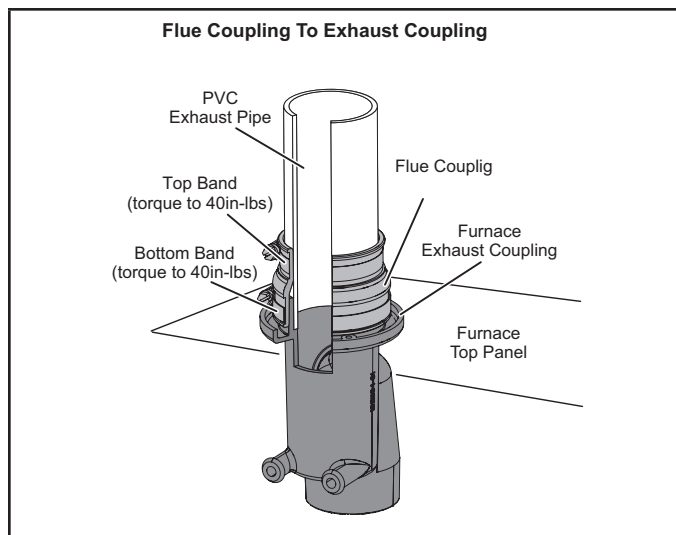

FIGURE 26
Exhaust Piping (FIGURE 26, FIGURE 27 and FIGURE 28)
Use provided bands. See steps below and FIGURE 26.
- 3 - Insert PVC exhaust pipe through flue coupling. Ensure vent pipe is fully seated into exhaust coupling. Tighten both top and bottom bands to 40 in lbs. See FIGURE 26.